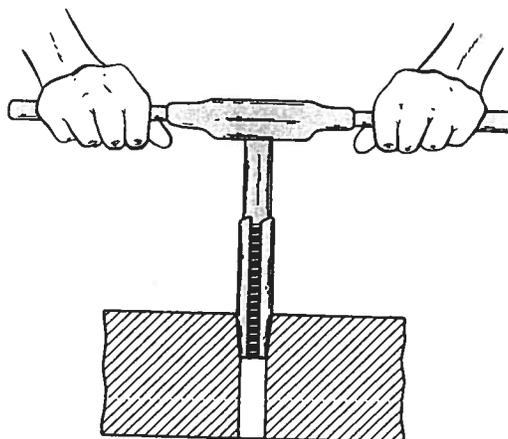

Fig. 21-10 When starting a thread with a tap, keep your hands near the tap on the tap wrench.
4. Insert the end of the tap in the hole, then grasp the tap wrench with both hands close to the tap (Fig. 21-10). Press down firmly on